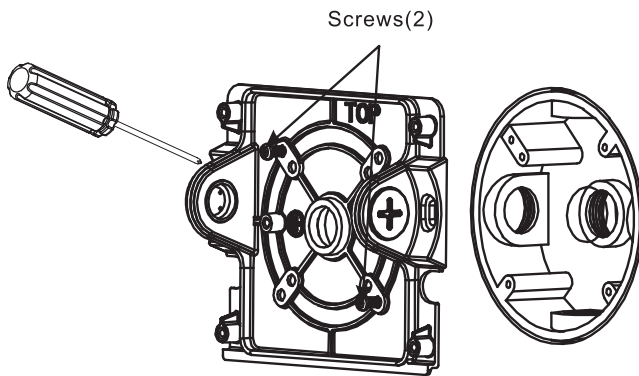
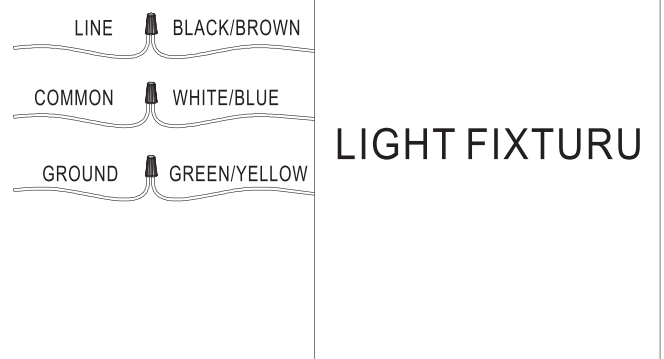

Fig. 5
Fig. 7
5. Mount Housing Back Plate to surface or junction box (supplied by others) and secure with (2) Screws (supplied by others) as shown in Fig.5
6. Route the power wires through the backplate of the housing, as shown in Fig. 5. Connect the housing wires to the power wires using UL-listed wire connectors, in accordance with NEC and local codes. (Fig. 7) Push all wires into the housing. Add a silicone gasket around the entire back surface of the fixture during final wall mounting.
Universal voltage driver permits operation at 120V, 60 Hz. follow the wiring directions as in Fig. 7